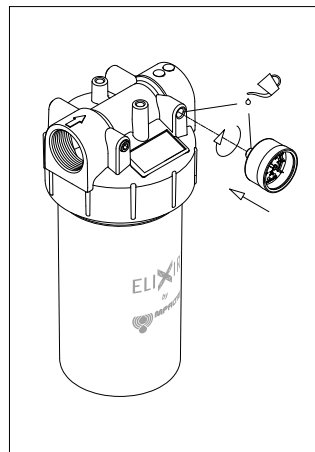

fig. 8
- (Fig. 8) Apply some PTFE hydraulic sealant on both threads, then screw the indicator in referring to the tightening torque table in paragraph 3.